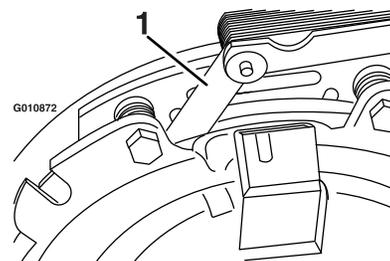

**Figure 79**
- B. Using needle-nose pliers, or by hand, hold the tab and remove the shim (Figure 79).
Remove any buildup of grass, dirt, or other debris from the engine screen. This helps ensure adequate cooling and correct engine speed and reduces the possibility of overheating and mechanical damage to the engine (Figure 79).